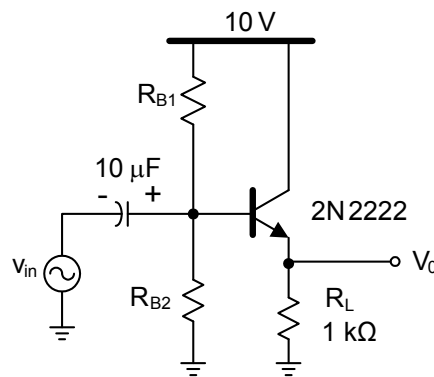

Fig. 4. Common-collector configuration
9. Find the magnitude of the small signal voltage gain for the circuit shown in Fig. 4 so that  $I_c = 1$  mA. Select the resistors lumped to the base such that the collector current is 1 mA and  $R_{B1} || R_{B2} > 50$  k $\Omega$ . First, check the operating point of your design and verify that the voltage gain is approximately given by  $g_m (R_L || 1/g_m) = R_L / (r_e + R_L)$ . Compute the values for the input impedance at the base and the output impedance.
10. Construct the circuit in Fig. 4 in PSpice and compare the simulated results (input impedance, output impedance and voltage gain) with calculations. Explain any differences. Also, obtain the frequency response of Fig. 4 and find the low frequency and high frequency poles.
8. Construct the circuit shown in Fig. 4; use the resistor values computed in the pre lab and be sure you verify these values using PSpice simulations.